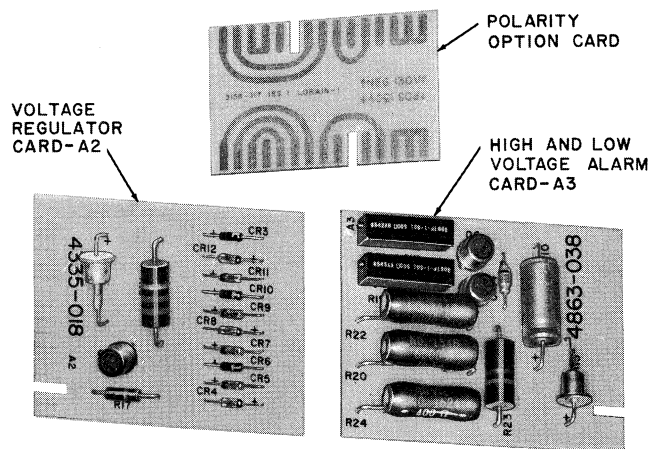

Fig. 5 — KS-19303 L3 Converter Component Card Assemblies
- (1) For use in a positive (negative ground) system, the “+130” designation shall read upright; the F1 output fuse, CR2 diode, and the ammeter will then be in series with positive dc output. (See Fig. 5).
- (2) For use in a negative (positive ground) system, the “-130” designation shall read upright; the F1 output fuse, CR2 diode, and the ammeter will then be in series with negative dc output. (See Fig. 5).